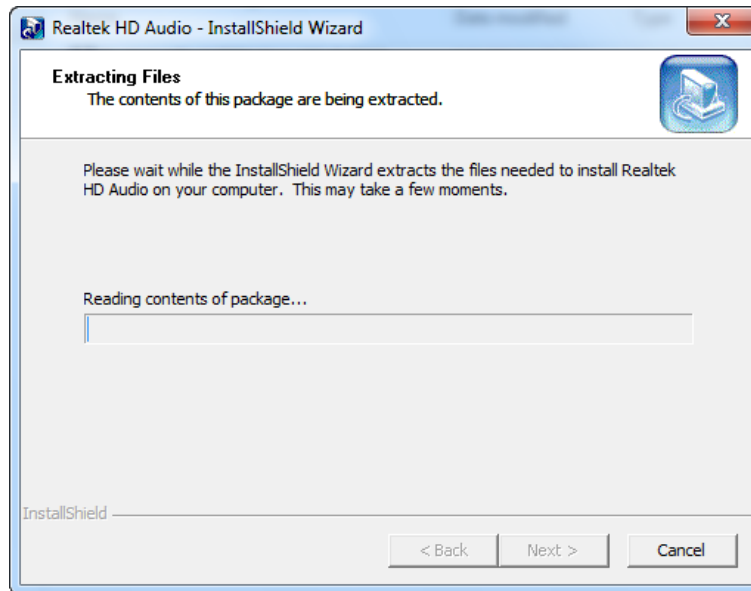

Figure 8-22: Audio Driver – Extracting Files
Step 4: The InstallShield Wizard starts to extracting files (**Figure 8-22**).